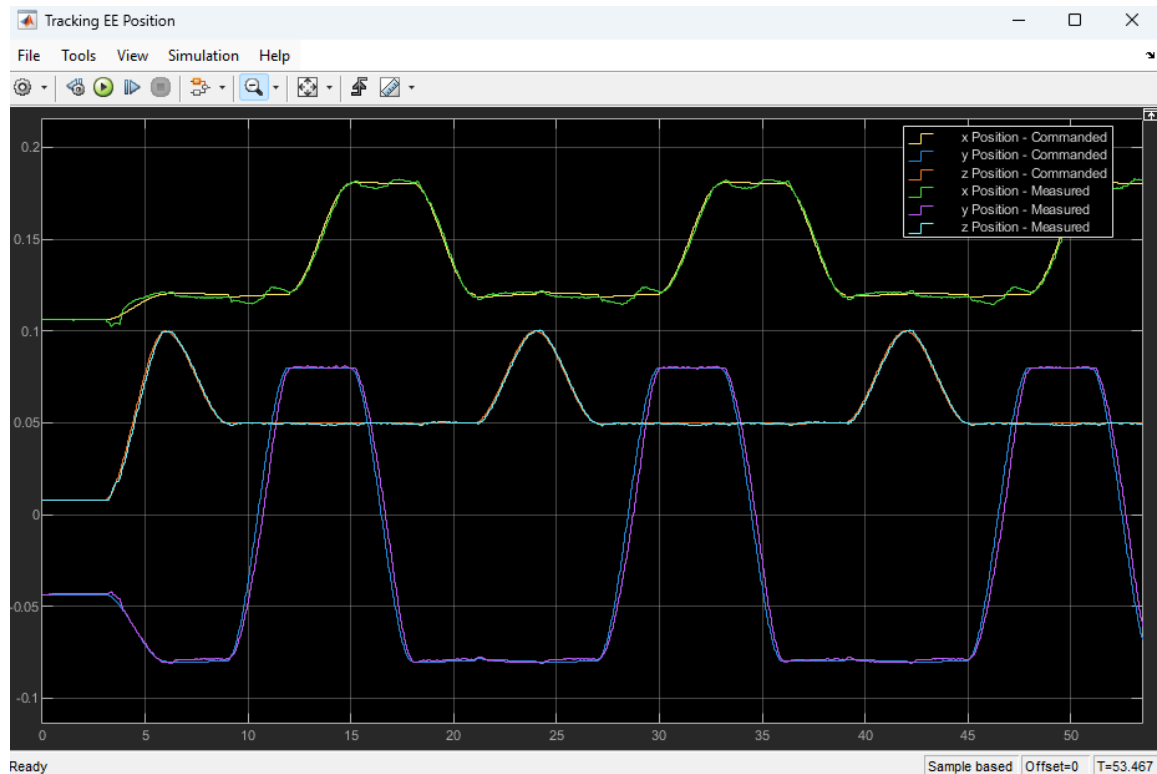

Figure 5. Commanded vs Measured EE Positions
8. Use the **Tracking EE Position** scope to monitor the Commanded vs Measured end-effector positions shown in Figure 5.